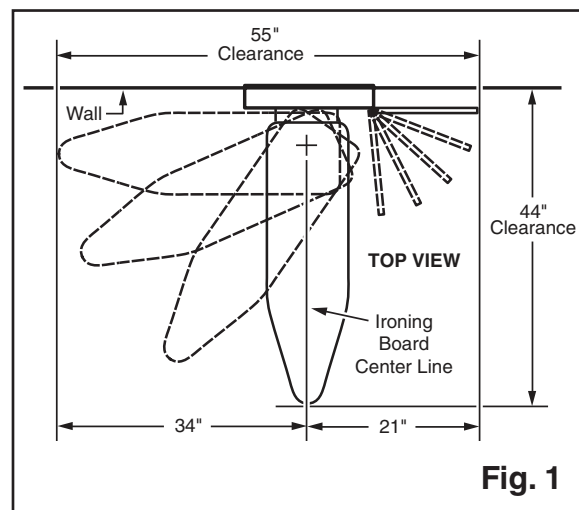

Fig. 1
1. Determine where to install. (Fig 1)